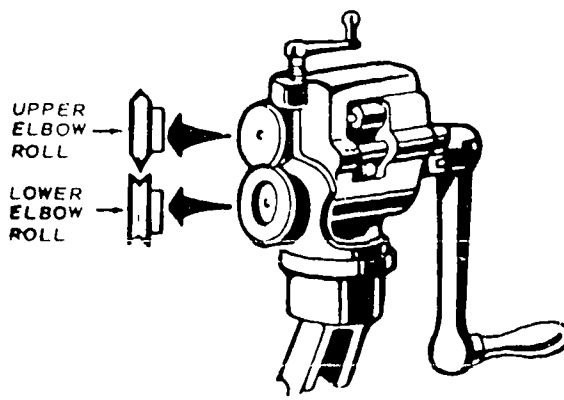

Figure 3-9. Elbow edging machine.
**Elbow edging machine.** The elbow edging machine, shown in figure 3-9, has elbow edging rolls that fit most standard makes of turning and burring machines. The lower roll of the elbow edging machine is v-grooved and has a matching upper roll. The rolls are made in three standard types to permit the fabrication of interlocking edges used in fastening various pieces of elbows together.